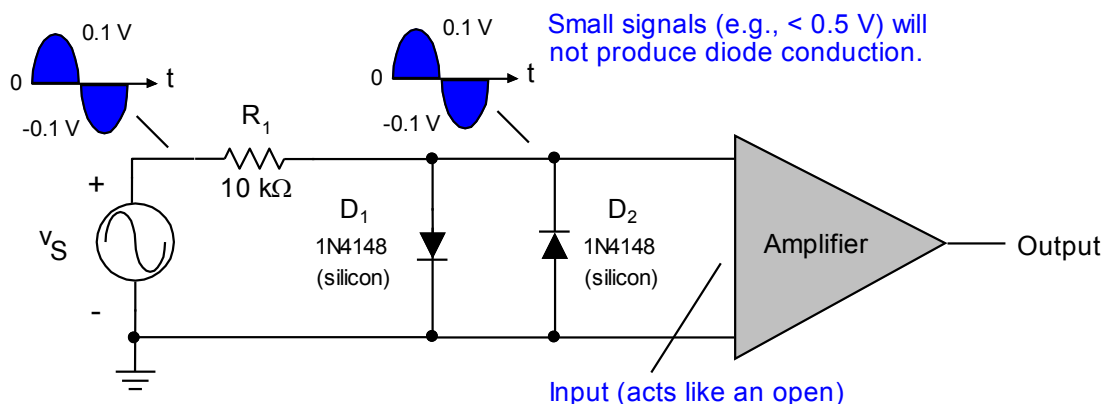

Figure 3-1
Diodes are often used to *clip* or *limit* voltage signals. One such application is shown in Fig. 3-1. The diodes are 1N4148 small-signal silicon units. The triangular symbol is used to represent an *amplifier*. Although we begin our study of amplifiers in Chapter 8, let us digress slightly to explain its role.
An amplifier is designed around devices such as discrete transistors and/or linear integrated circuits. Its sole function is to take small (voltage) signals and make them larger. It should make the signals larger *without* altering their shape. An amplifier that alters the shape of an input signal is said to produce *distortion*. Ideally, a voltage amplifier should not draw an appreciable current from its signal source. Stated another way, this means *the amplifier's input should act like an open circuit*. When an amplifier is being driven by an *external signal source*, it may be desirable to protect its input from receiving a signal that is too large. [An *external signal source* might be a compact disk (CD) or an MP3 player for instance.] A diode clipper circuit can be used to protect the amplifier's input as shown in Fig. 3-1.²⁰